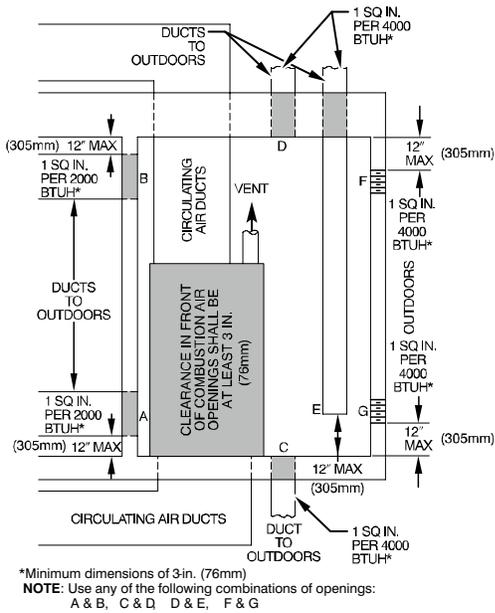

Fig. 6 – Air for Combustion, Ventilation, and Dilution for Outdoors
2. Fig. 6 illustrates how to provide TWO OUTDOOR OPENINGS, one inlet and one outlet combustion and ventilation air opening, to the outdoors.
- b. Size openings and ducts per Fig. 6 and Table 4.
- c. TWO HORIZONTAL DUCTS require 1 sq. in. (645 sq. mm) of free area per 2,000 BTU_h (1,100 mm²/kW) of combined input for all gas appliances in the space per Fig. 6 and Table 4.
- d. TWO OPENINGS OR VERTICAL DUCTS require 1 sq. in. (645 sq. mm) of free area per 4,000 BTU_h (550 mm²/kW) for combined input of all gas appliances in the space per Fig. 6 and Table 4.
- a. 1 sq. in. (645 sq. mm) of free area per 3,000 BTU/h (734 mm²/kW) for combined input of all gas appliances in the space per Fig. 6 and Table 4.